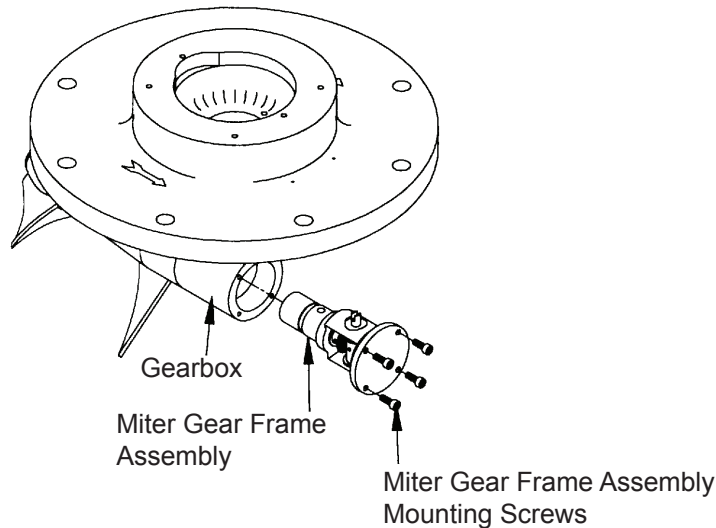

Figure 9: Miter Gear Frame Assembly Inside The Gearbox
Step 7. For ML, LP, and OF meters: remove the miter gear frame assembly by releasing the four screws out of the back of the gearbox (Figure 9).